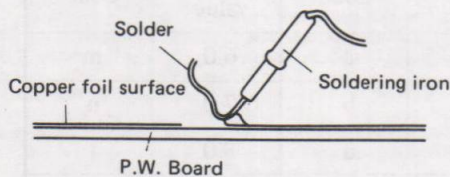

Figure 7
1. First, temporarily solder the square chip onto one side of the copper foil surface. Refer to Fig. 7.